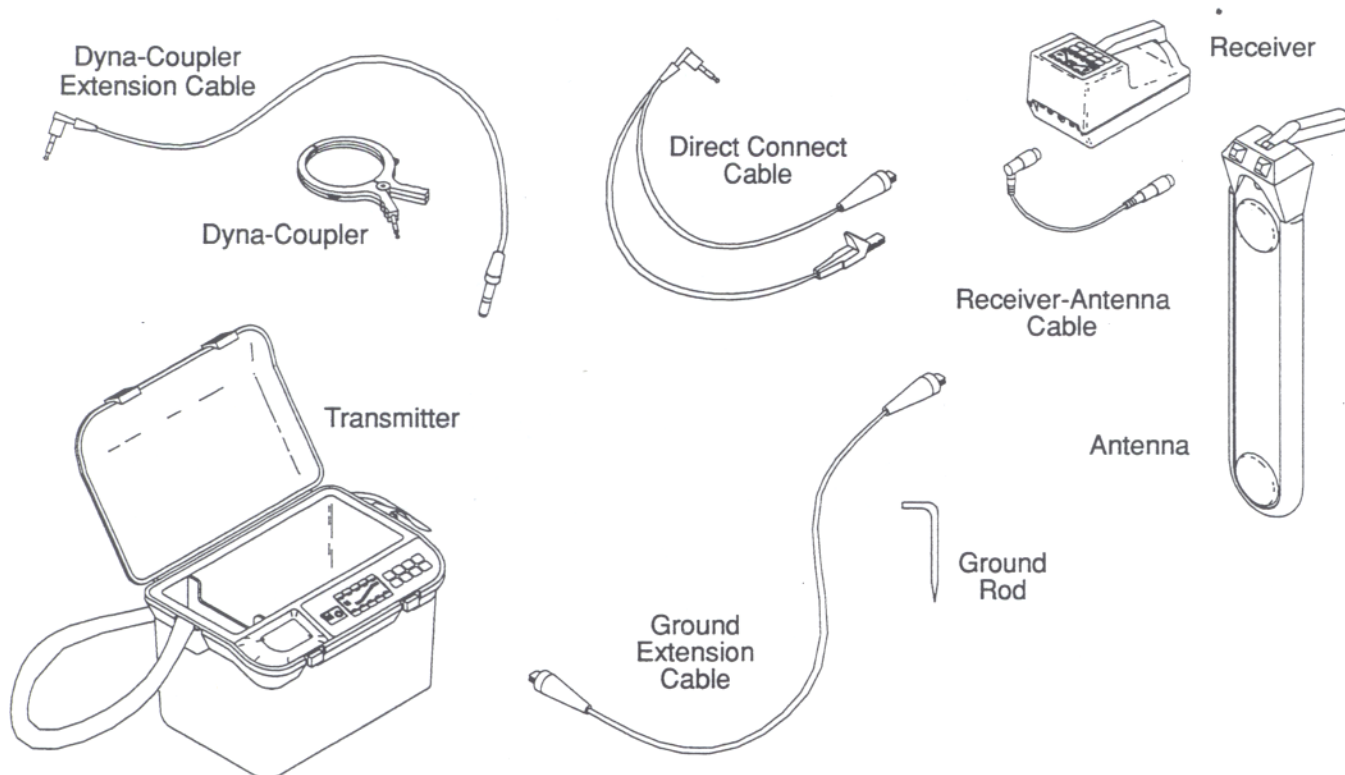

Fig. 1-1 Dynatel™ 500DL Cable Fault Locator
1.1 This manual covers the description, use, care, and maintenance of the Dynatel 500DL Precision Cable Locator (refer to Fig. 1-1). The 500DL is a portable instrument which locates the path of buried cables. Four frequencies are available to accommodate varying factors such as distance, cable type, or soil conditions. A separate tone function in the Transmitter provides a powerful 577.5 Hz signal for identification using a separate toning amplifier. The instrument is also able to detect 60 Hz AC power signals. In the depth measurement mode, the 500DL provides a direct digital readout of the estimated depth of buried cables, and a bar graph indication of the relative current in the cable.